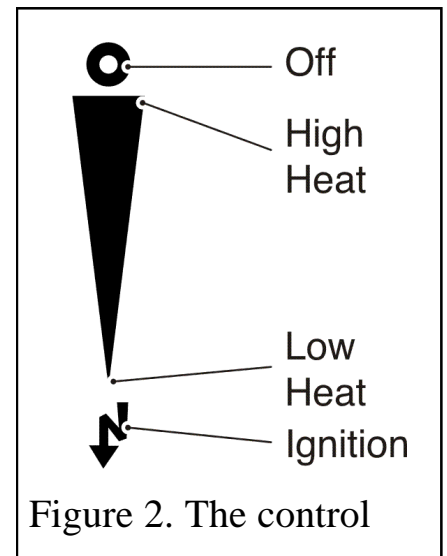

Figure 2. The control
The slide control is shown in figure 2.
3. If low heat is required, release the button. The button will automatically spring up to the low heat position shown in figure 2 (See note i below).
4. For a higher heat level slide the button upwards. The burner flames and heat output will gradually increase until the button reaches the high heat position shown in figure 2.